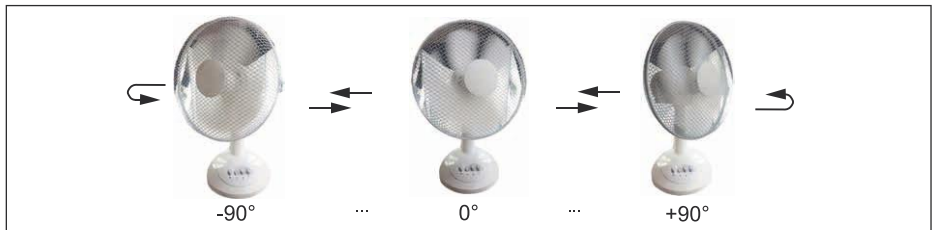

Fig.22: Rotation
*The fan can rotate 180° during operation, Fig. 22.*